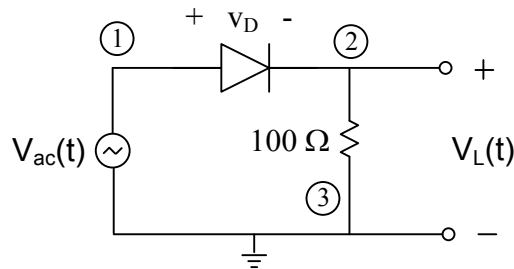

Fig. 6. Circuit for I-V Characteristic Measurement
The I-V characteristics of a diode can be displayed directly on the oscilloscope using XY mode and the circuit shown in Fig. 6. The voltage across the resistor is used as the Y input, and the voltage across the diode  $v_D$  is used as the X input. Thus a voltage  $100 \cdot I_D$  will be the vertical axis, and  $v_D$  will be the horizontal axis. It must be noted that the voltage units of the vertical scale should be divided by 100 to obtain the diode current in amperes.
1. Construct the circuit shown in Fig. 6, using the 1N4006 or 1N4148 silicon diode.
5. Is the current flowing in the load resistor in Fig. 6 *bidirectional* or *unidirectional*?
6. For Part C, compare the ripple voltages of the following: (1) power supply with  $C = 100 \mu\text{F}$ , and (2) power supply with  $C = 10 \mu\text{F}$ .